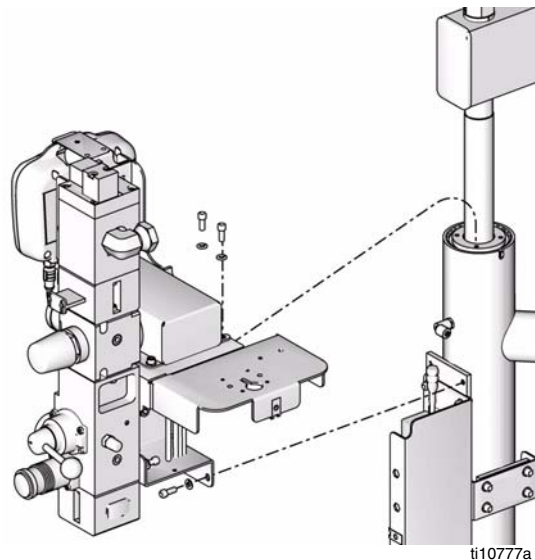

FIG. 3
If you are not replacing the manifold (1), you may prefer to remove the bracket from the ram and leave it attached to the integrated air controls because the screws are easier to reach. See FIG. 3.